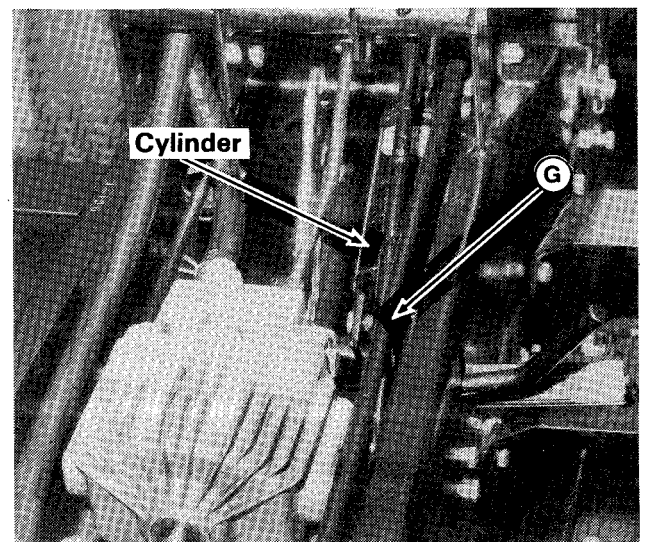
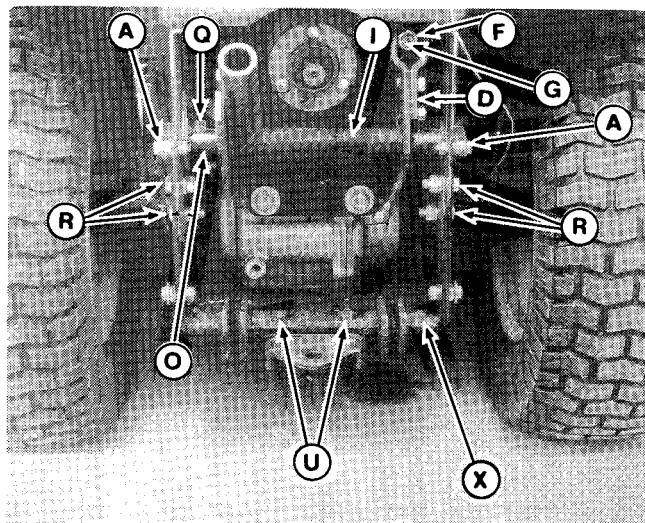
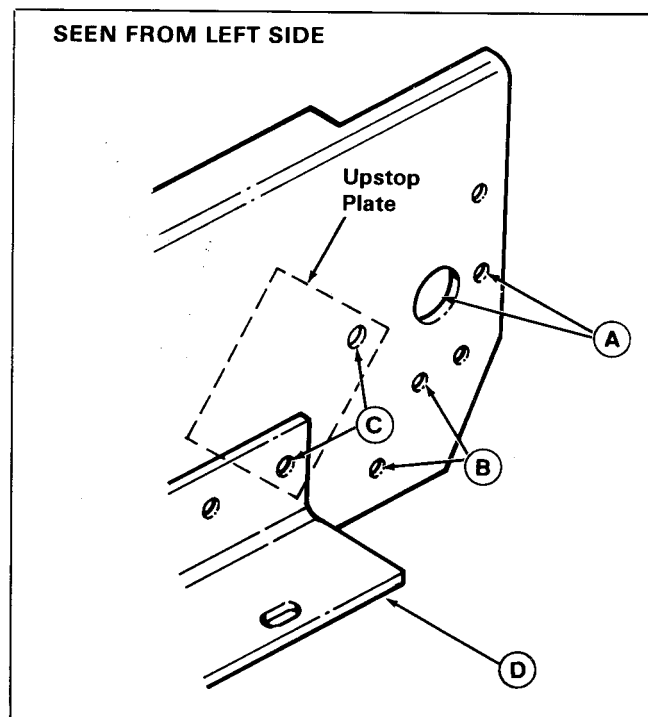
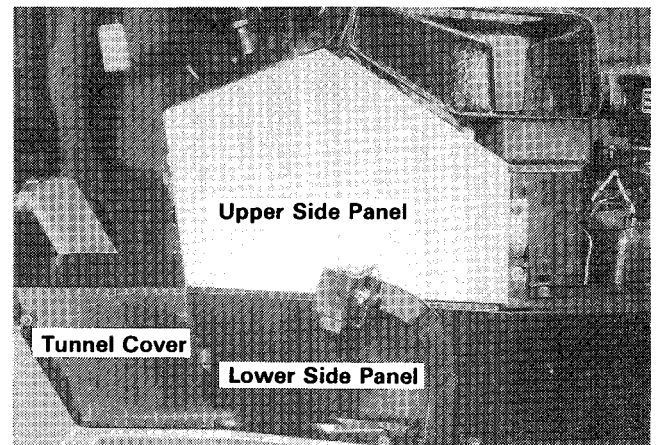

Figure 3.
Figure 6.
Figure 7.
**Figure 1.**
- d. Insert lift rod (G, figure 1) from rear of tractor up to the tractor lift lever. The rear end of lift rod is shown in figure 6. Figure 3 shows the lift rod (G) as it is positioned in tractor.
- e. The cylinder (figure 3) is connected to the tractor lift lever. Remove the clip and pin, and disconnect the cylinder from the lift lever.
- b. Install the plate in mounting holes (C, figure 7) shown. Use 7/16-14 x 1-1/2" screw at front hole and 7/16-14 x 1-1/4" screw (from transmission support) at rear hole. Install lockwashers and nuts.
4. Insert the lift shaft (I, figure 6) into position, place bearing (A) on to each end, and secure with capscrew, lockwasher and nut each side.
5. Position the rear trunnion (F) onto the lift rod (G) attaching the lift arm (D) with two 3/8-16 x 1" capscrews, 3/8" lockwashers and 3/8" nuts. Install centerlock nut (E) on end of lift rod.
6. Position the hitch (X) as shown in figure 6 and install two 7/16-14 x 1-1/4" capscrews (R), 7/16" lockwasher and 7/16" nuts each side. See mounting holes (B, figure 7).
1. Refer to figure 1 to identify parts in the kit. The reference letters are the same as figure 6.
- R. Capscrew, 7/16-14 x 1-1/4 (4)
- S. Lockwasher, 7/16 (4)
- T. Nut, 7/16 (4)
- U. Capscrew, 1/2-13 x 1-1/4 (2)
- V. Lockwasher, 1/2 (2)
- W. Nut, 1/2 (2)
- X. Hitch (1)
- Y. Trunnion, Front (1)
- Z. Washer (1)
- AB. Clip (1)
2. Install the lift rod (G, figure 1) as follows: